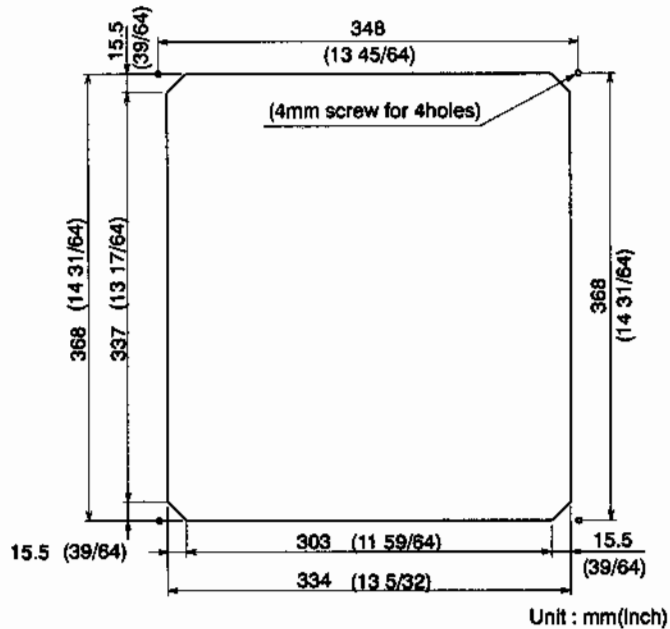

Figure 3.14 Opening and holes for mounting a display unit
- (1) Cut an opening and drill four nut-holes with the size shown in Figure 3.14, on the side for attachment of a display unit on a panel.
- (2) Remove four knobs that hold the display unit to the mounting bracket.
- (3) Remove four corner guard caps.